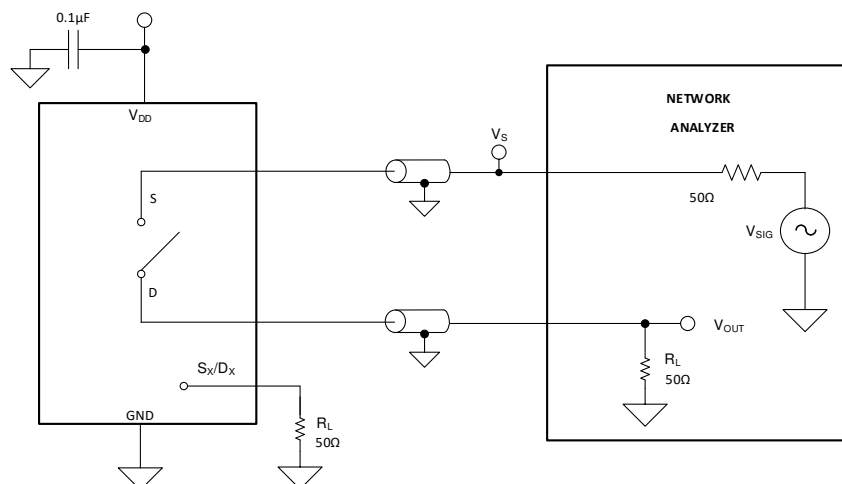

图 7-8. Off Isolation Measurement Setup
Off isolation is defined as the ratio of the signal at the drain pin (D) of the device when a signal is applied to the source pin (S_x) of an off-channel. 图 7-8 shows the setup used to measure, and the equation to compute off isolation.